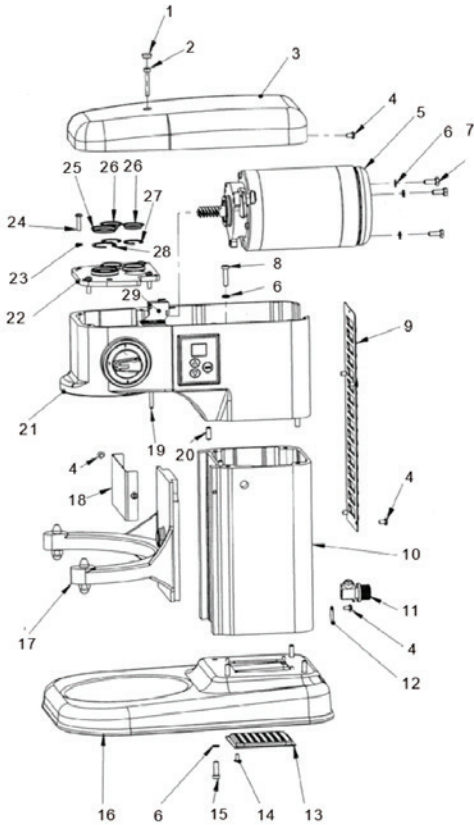

Figure 1: Main body of the machine
- Main body of the machine (Figure 1);
Machine part list of Figure 1